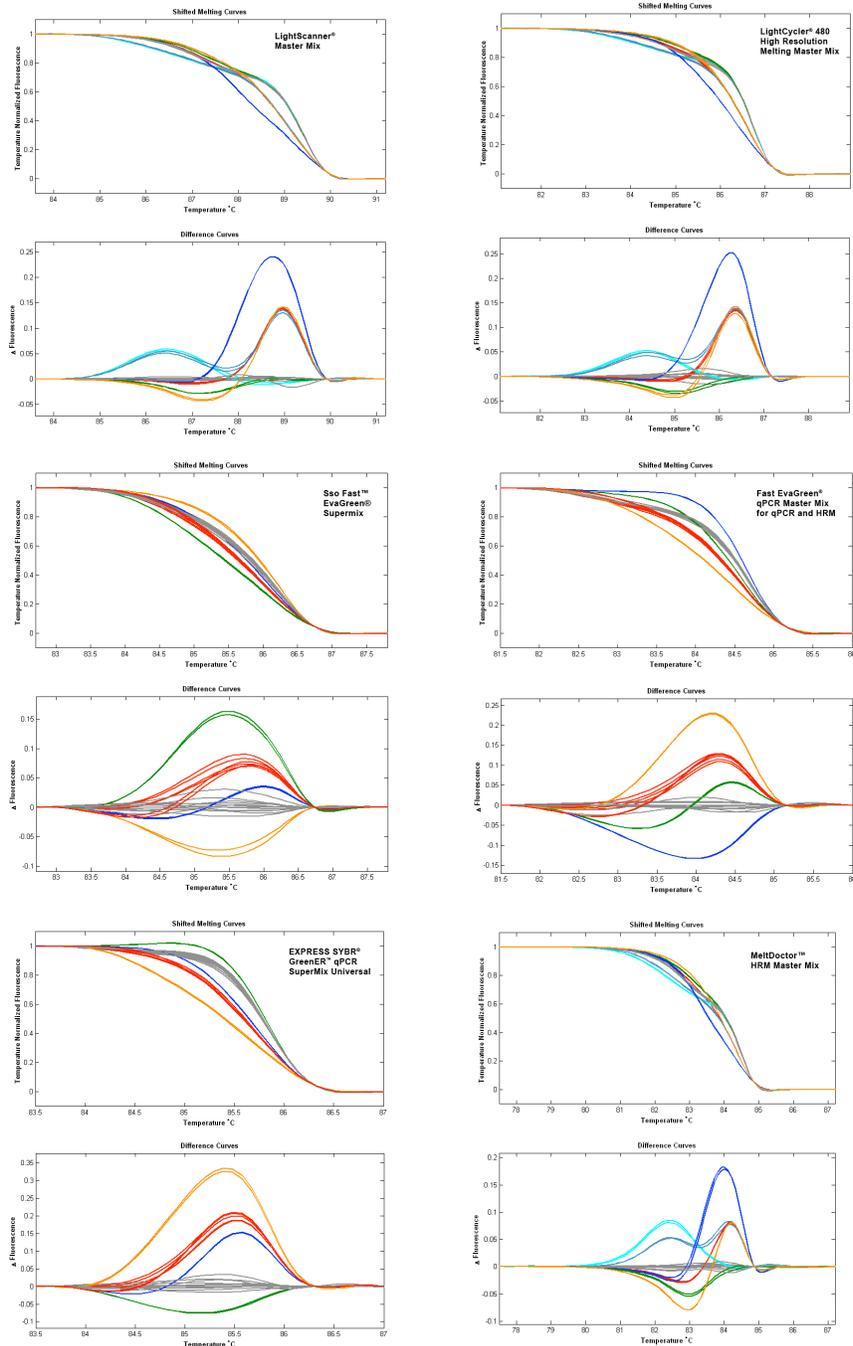
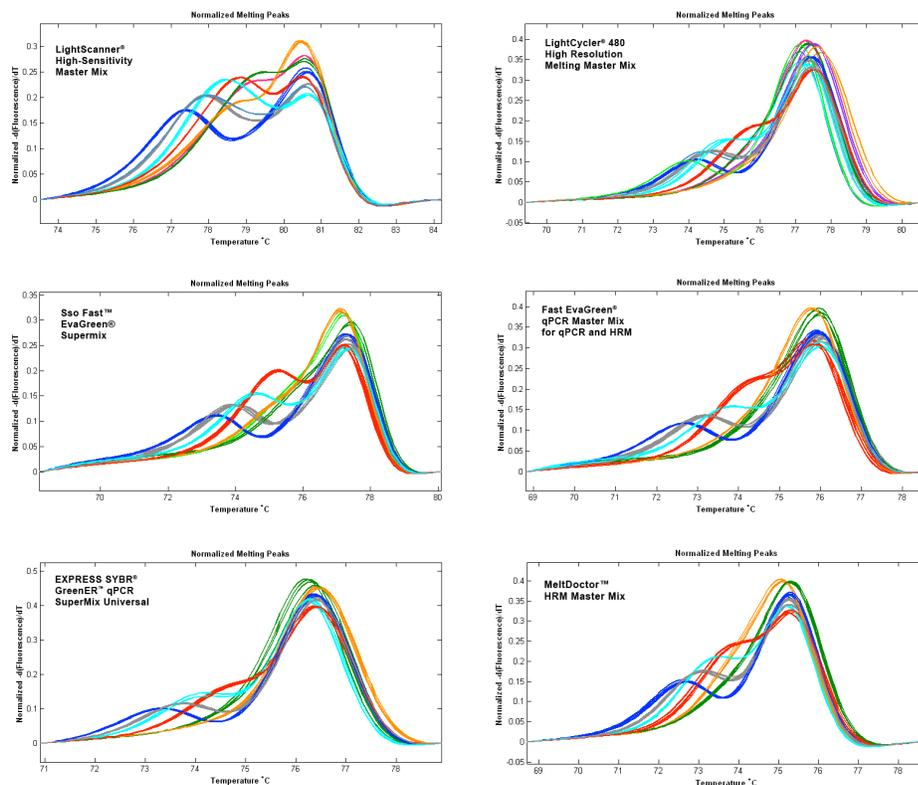

Figure 1. Scanning sensitivity variation across the six master mixes.
Figure 2. Human tyrosine hydroxylase locus small amplicon genotyping results.
- LightScanner Master Mix (Figures 1, 3) and the LightScanner High-Sensitivity Master Mix (Figure 2) (with calibrators) with LCGreen® Plus dye (BioFire Defense, LLC)
Whole blood was drawn from 30 human donors, and DNA was isolated using standard extraction kits and procedures. Samples were diluted in TE 1X buffer, pH 8.0, to a final concentration of 15 ng/μL. Genotypes for all comparisons were identified using Hi-Res Melting technology and sequence-verified. All master mixes were used in accordance with manufacturer recommendations. We optimized PCR protocols for each master mix to generate the cleanest amplicons for analysis on the LightScanner system. Standard agarose gels were run to verify annealing temperature optimization. PCR duplicates (Figure 1) or triplicates (Figures 2 and 3) were run for each DNA sample. All PCRs for master mix comparisons were performed on calibrated 96-well plate thermal block cyclers, followed by Hi-Res Melting on the LightScanner. Data analysis was performed using standard software supplied with the LightScanner.
High Sensitivity master mix (with calibrators) was used in place of the LightScanner master mix in the small amplicon genotyping study. It should be noted that this is the only commercial master mix that contains a finely tuned internal calibration system designed to work with High-Res Melting calibration software. Because of this, peak alignment is highest in Figure 2 with this master mix. Using this master mix ensured the highest resolution available despite the inevitable yet subtle sample-to-sample temperature, volume, and buffer variation.
Gene scanning results for the LIPC amplicon (302 bp, 52% GC) are shown in Figure 1. LightScanner, LightCycler 480, and MeltDoctor mix correctly identified all seven genotype groups. In contrast, SsoFast EvaGreen, Fast EvaGreen, and EXPRESS SYBR GreenER master mixes were only able to differentiate five groups. This was due to the homozygous variant samples being incorrectly grouped with the wild-type profiles and two different heterozygous variants being grouped together. This decreased sensitivity is probably caused from reduced or absent heteroduplex content at approximately 87.5°C. This second melting domain is clearly observed with the LightScanner Master Mix and is partially observed with the LightCycler 480 mix.
The human tyrosine hydroxylase locus was assayed using a set of primers immediately flanking a common short tandem repeat used in forensics (HUMTHO1) yielding a variable length fragment ranging from 67–82 bp. Results are shown in Figure 2 above. Sample genotypes were established by fragment analysis performed independently by the Los Angeles Police Department’s forensics laboratory.
The High Sensitivity Master Mix correctly identified all eight genotype combinations. The MeltDoctor, SsoFast EvaGreen, Fast EvaGreen, and EXPRESS SYBR GreenER master mixes identified six of eight groups correctly. Several errors were found with the LightCycler 480 mix. In two instances, two genotypes were combined into a single group and also resulted in three unique genotypes being clustered into only two groups. The LCGreen dye in the High Sensitivity Master Mix creates maximal heteroduplex content as can be seen in Figure 2 (note green and orange group profile differences). All other dyes have less heteroduplex content, partly explaining the loss of sensitivity in this small amplicon genotyping application.